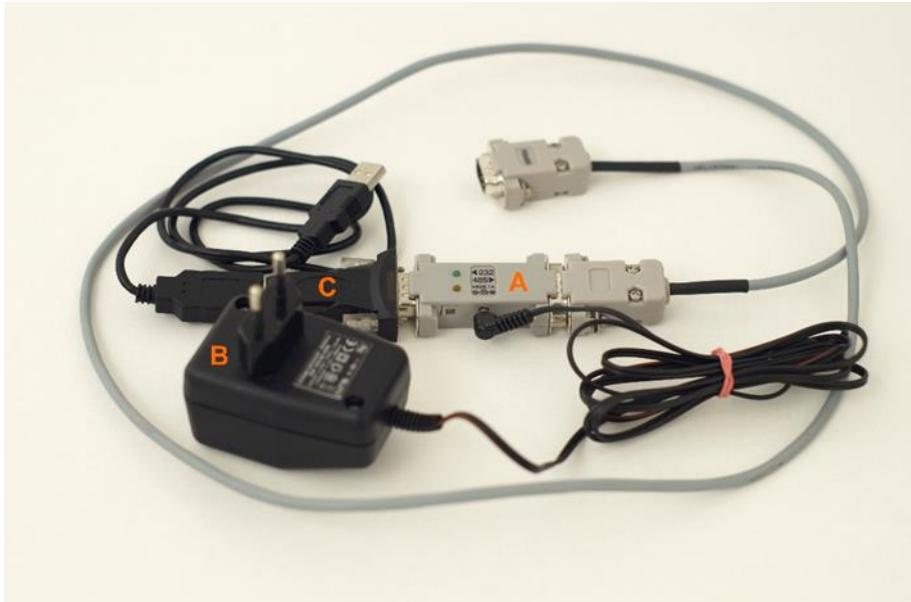

Figure 1 LAMBDA RS-485 CONNECTION KIT:
- Connect the RS-485-RS-232-USB converter (A+C in Fig.1) to a USB port of your PC.
- The RS-485-RS-232 (A in Fig.1) should be powered with the supplied power supply (B in Fig.1)
Check power supply	LED Signal on the RS converter (A in Fig. 1)
Activity	LED Signal on the RS converter (A in Fig. 1)